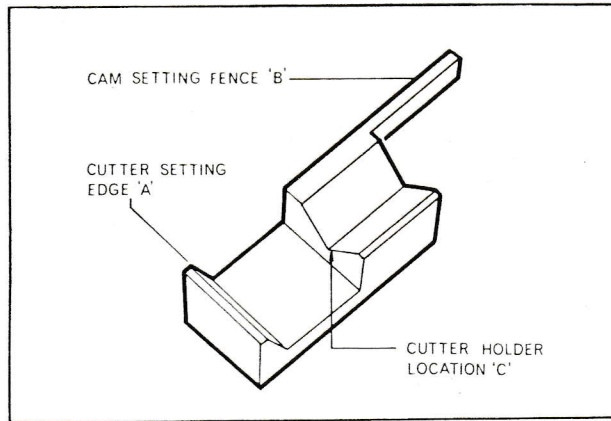
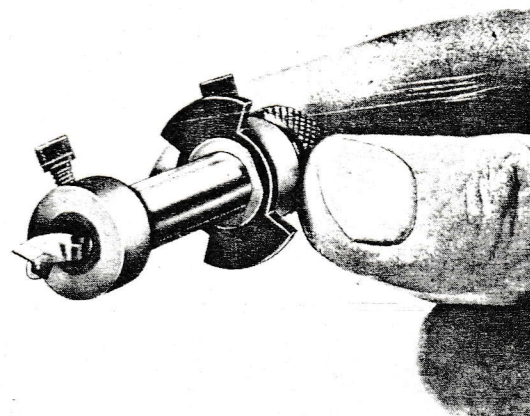
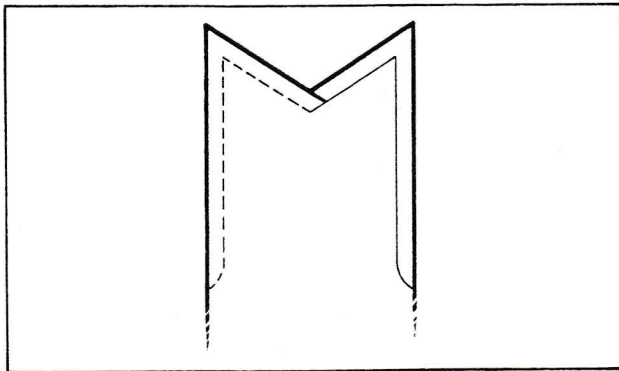

FIGURE 3 CUTTER SETTING GAUGE
FIGURE 6
FIGURE 12 FISH TAIL CUTTER
(Figure 3)
- (1) Select the appropriate stop-cam as suggested by the general guidance table.
- (2) Locate the cam on a $\frac{3}{8}$ inch diameter cutter holder (Knurled) and assemble this onto the taper shank cutter holder.
- (3) Place the cutter into the holder so that there is freedom of rotation between the holder and the cutter.
- (4) Locate the assembly on the setting gauge, with the flat of the cutter aligned with the setting edge (A Figure 3) and the stop cam as shown in Figure 4C.
- (5) Rotate the cutter holder in a clockwise direction until the stop cam abuts against the setting fence (B Figure 3) as shown in Figure 4D.
- (6) Carefully remove the complete assembly from the setting gauge, taking care not to disturb the setting of the holder relative to the cutter.
- (7) Retain the holder and cutter between the fingers and thumb, and give the knurled end of the cutter holder a sharp blow on a solid flat surface to lock the cutter in the holder. The cutter is now ready for grinding.
- (1) Select the correct diameter cutter holder and locate a twin-lip cam on a $\frac{3}{8}$ inch diameter holder (Knurled). If the cutter is smaller than $\frac{3}{8}$ inch diameter, locate this holder on the appropriate size cutter holder and lock it in position with the socket head screw (Figure 6).
- (2) Load the cutter into the holder so that the cutter can freely rotate.
- (3) Locate the cutter and holder correctly on the setting gauge by locating the cutter so that one flute is aligned with the setting gauge edge (A Figure 3) as shown in Figure 5C.
- (4) Holding the cutter holder in the setting gauge, adjust it so that one lip of the stop cam is abutting against the setting fence (B Figure 3) as shown in Figure 5D.
- (5) Lock the cutter in position with the socket head screw.
- (1) Unlock the crutch clamp screw and set the crutch to the 0° or required angle on the graduated scale.
- (2) Set the cutter in the holder so that when one of the previously ground flat faces of the twin face cutter blank is aligned with the gauge setting face (A), Figure 3, one lip of the twin-lip cam abuts against the setting fence (B), Figure 3.
- (3) Hold the cutter firmly in the 'Vee' section of the crutch and rotate the holder anti-clockwise until the cam lip abuts against the crutch pin. Using the screw feed to feed-in, grind one side first and then the other until the required diameter is obtained.
- (4) Set the crutch angle to position 'T' and grind the end 'fish tail' as shown in Figure 12. Careful adjustment of the lower stop screw will prevent grinding beyond the cutter axis.